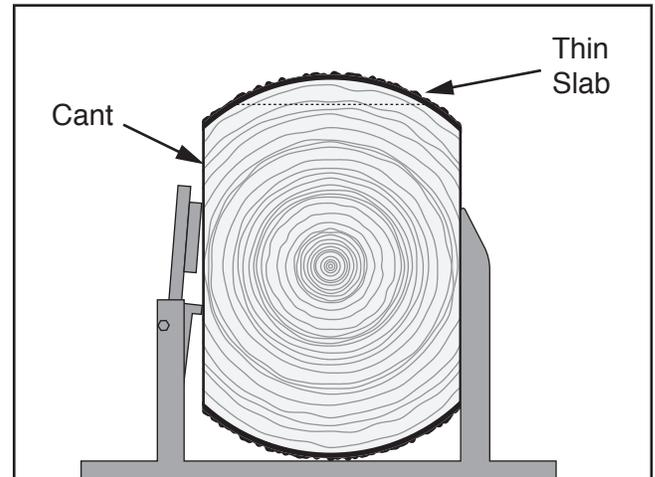

Figure 90. Thin slab to be removed from cant.
5. Rotate cant 90° and clamp to track bed, using log supports to ensure cant is perpendicular to track (see **Figure 90**). Take care that log clamps hold cant tight against supports.
6. Cut a thin slab and remove it from cant (see **Figure 90**). Discard slab.